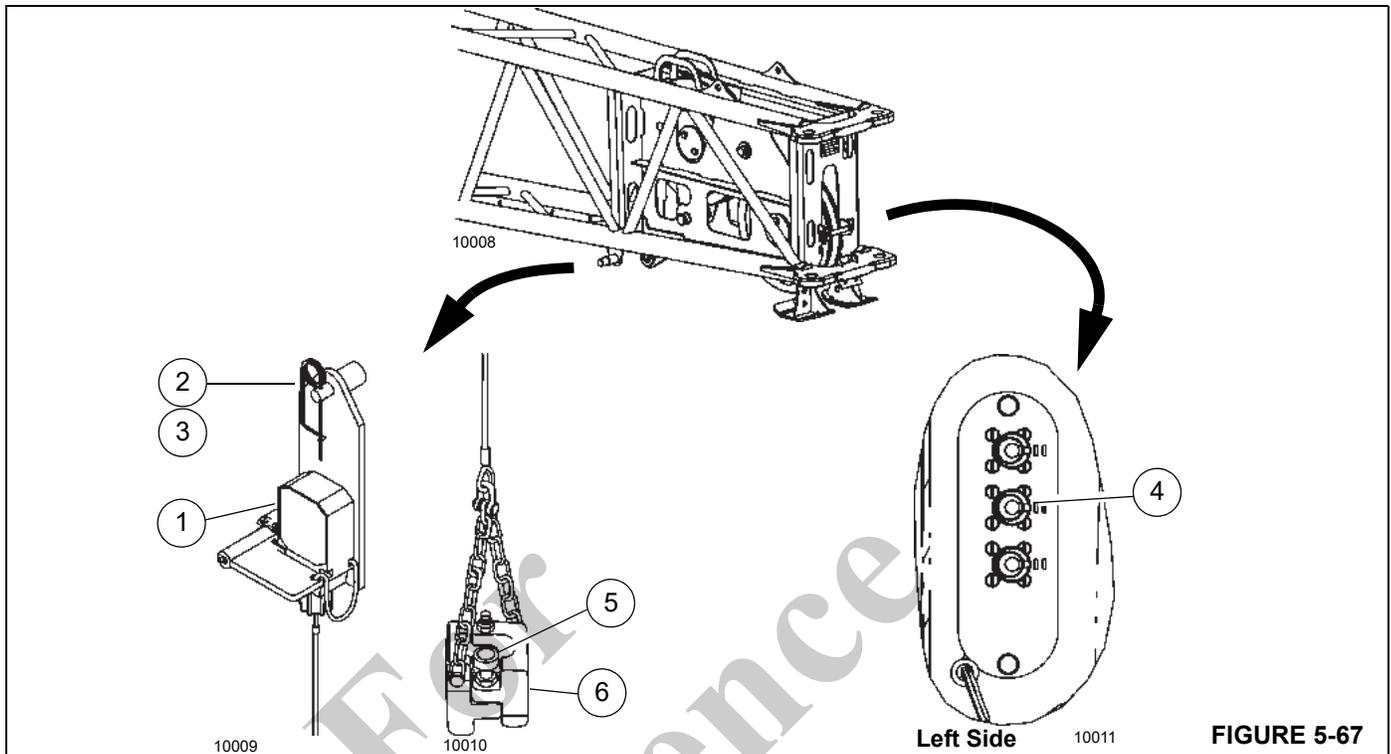

FIGURE 5-67
1. Install the anti-two block switch (1, Figure 5-67) on bracket (2) on the right side of the boom extension base section. Secure switch with retaining clip (3).
2. Remove the protective cap from the electrical socket (4). Connect the electrical plug in socket (4) on left side of the boom extension base section.
4. Remove safety pin (5). Install the anti-two block weight (6) around the hoist rope. Secure with safety pin (5).